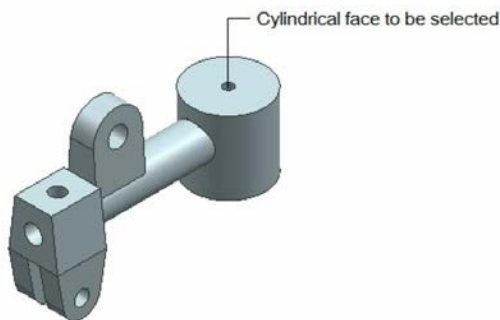

Figure 13-130 Cylindrical face to be selected
- Add two more holes to the cylinder using the **Copy Face** tool and then the **Paste Face** tool, refer to Figure 13-130.
2. Select the inner face of the cylinder, refer to Figure 13-130. The distance vector and the pivot point are selected by default. Enter **15** in the **Distance** edit box of the **Transform** rollout and then press ENTER; the model is updated and the preview of the hole is displayed in the graphics window.
4. Select the inner face of the cylinder once again to create another hole, refer to Figure 13-130. Next, choose the **Reverse Direction** button to create the hole in a direction opposite to the already created hole. Enter **15** in the **Distance** edit box in the **Transform** rollout. Choose **OK** to copy the hole.